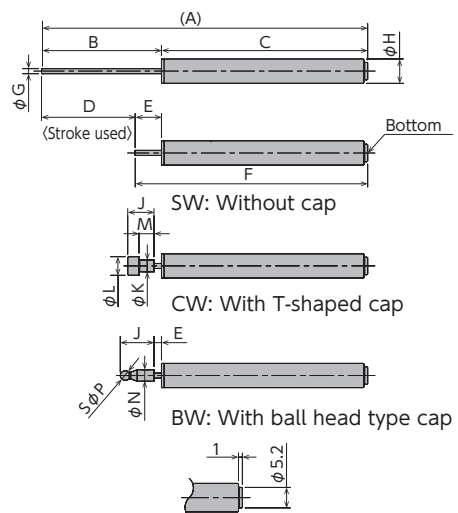

Fig. 1 Bottom Shape of FPD-0725 Series
*The shape of the bottom of FPD-0725 series diers from FPD-07□□ series. (Ref. Fig. 1)